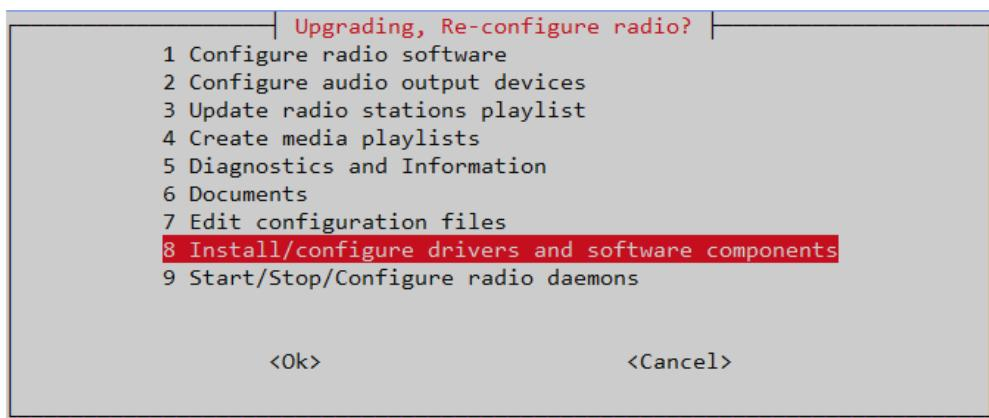

Figure 192 The radio-config menu
- Select option **6 Documents and Tutorials** from the **radio-config** menu shown in *Figure 192 The radio-config menu* on page 131.